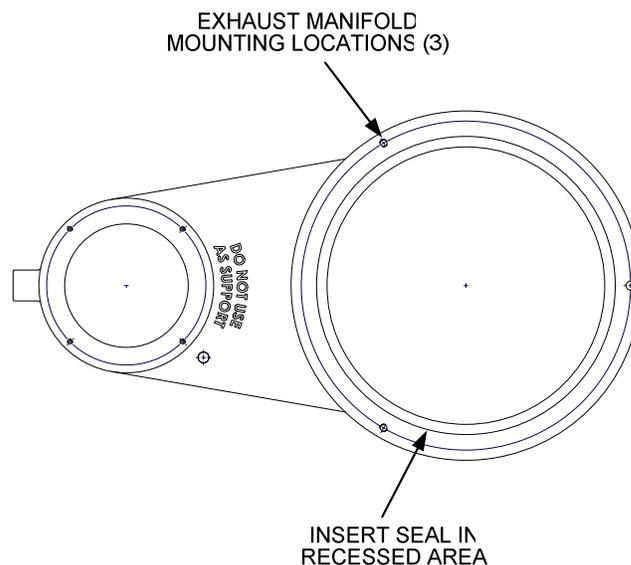

Figure 8. Benchmark 1.5LN Exhaust Manifold - Top View
8. Refer to Figure 8 and replace the exhaust manifold seal (part no. 84020) with the new seal provided in the 24-month maintenance kit. Install the adhesive-backed seal in the recess of the exhaust manifold flange (adhesive side down).
9. Align the exhaust manifold with the lower heat exchanger flange and secure it in place using the three (3) bolts removed in step 4. Alternately tighten the bolts to obtain a uniform seal.